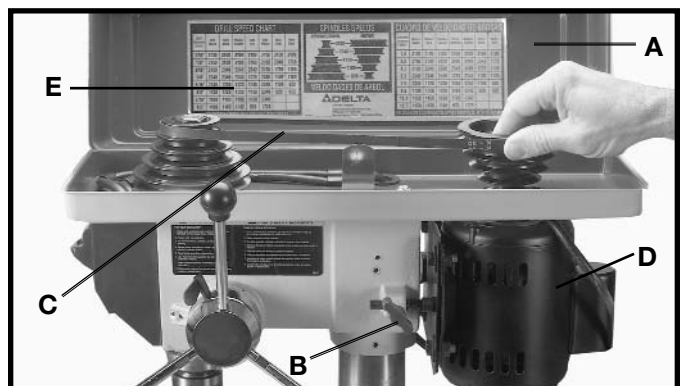

Fig. 26
NOTE: A BELT POSITIONING SPEED CHART (E) FIG. 26, IS LOCATED ON THE INSIDE TOP COVER OF THE DRILL PRESS.
2. Lift up the belt and pulley guard (A) Fig. 26.
3. Release belt tension by loosening tension lock knob (B) Fig. 26, and pivoting the motor (D) toward the front of the drill press.
4. While holding the motor toward the front of the drill press, position the belt (C) on the desired steps of the motor and spindle pulleys, as shown in Fig. 26.
5. After the belt is positioned on the desired steps of the motor and spindle pulleys, move motor (D) Fig. 26, to the rear until the belt is properly tensioned and tighten tension lock knob (B). The belt should be just tight enough to prevent slipping. Excessive tension will reduce the life of the belt, pulleys and bearings. Correct tension is obtained when the belt (C) can be flexed about 1" out of line midway between the pulleys using light finger pressure.